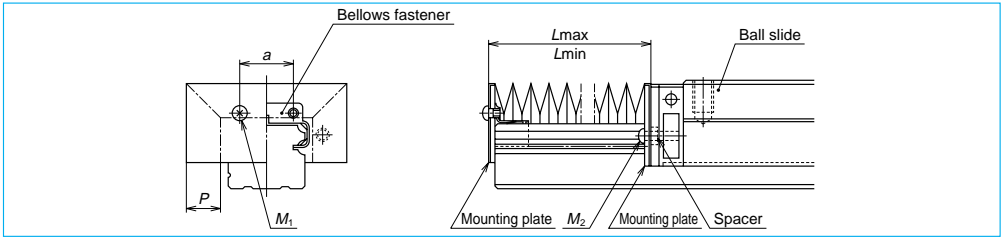

Fig. II-5-10
(5) Bellows
① LH and LS Series
*Installation in the ball slide (Fig. II-5-10)
- Remove two machine screws (M2) which secure the end seals to the end of the ball slide (Fig. II-5.10).
- To install bellows for LH Series and LS Series, lightly knock a fastener exclusively for bellows to the end of the rail (Fig. II-5.10). Then secure the mounting plate at the end of the bellows through the tap hole of the fastener.